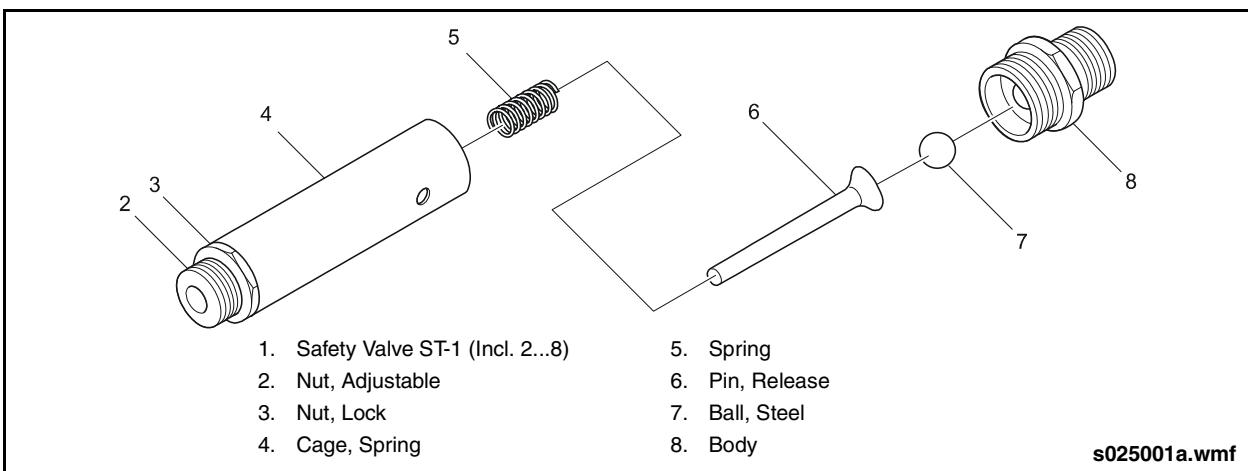

Fig. 8-10: Safety Valve Assembly
2. Using upper wrench flat, unscrew lock nut. Unscrew and remove spring cage from body of valve. See “Fig. 8-10: Safety Valve Assembly” on page 49.